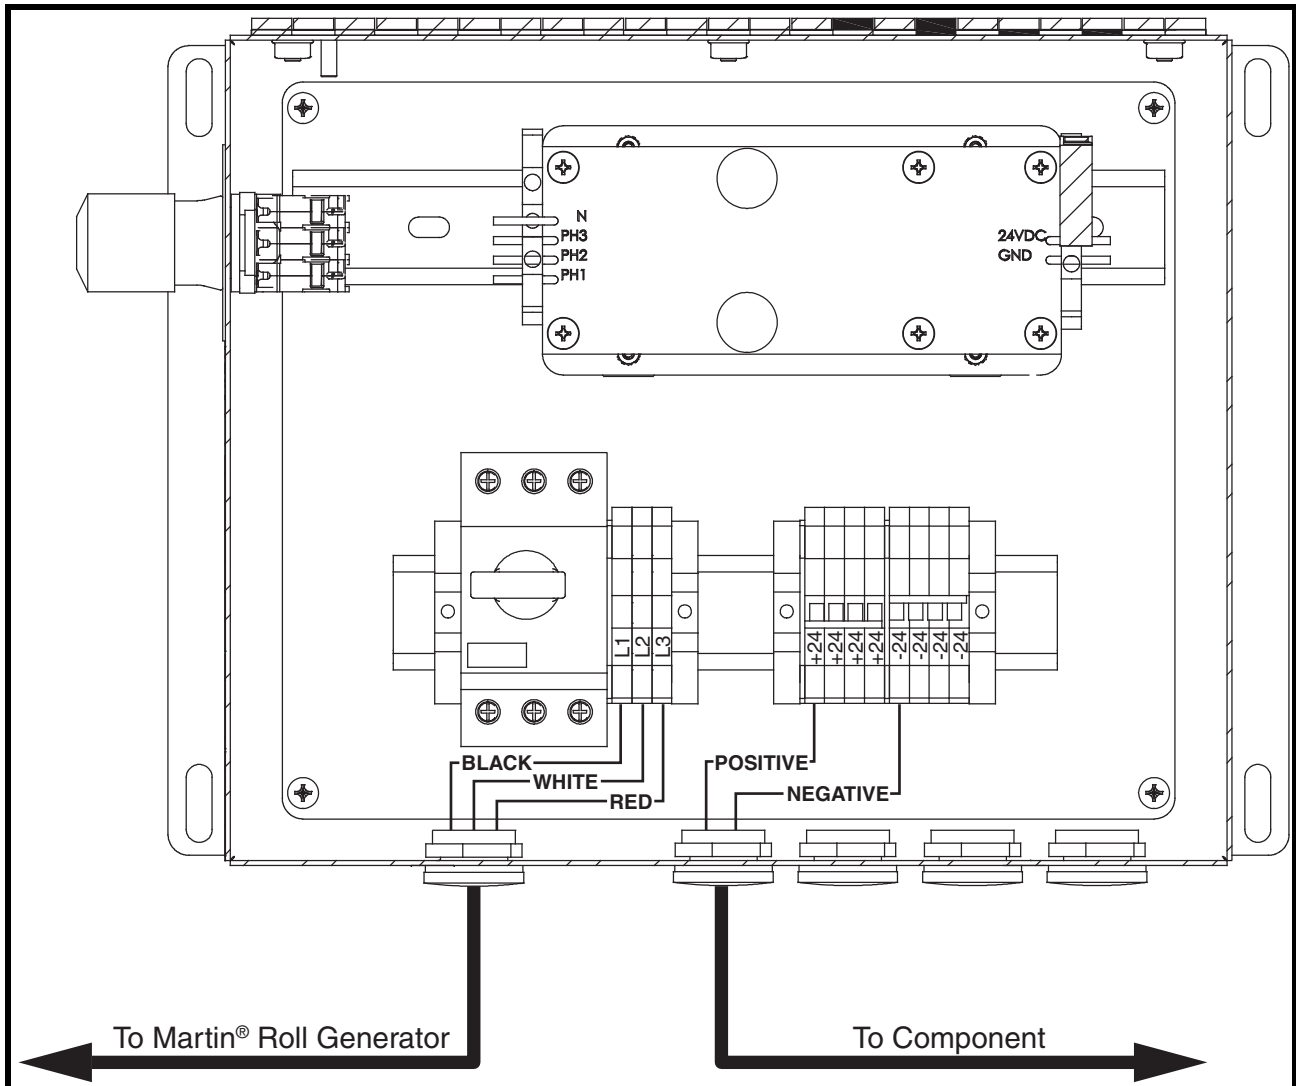

Figure 3. Power Supply Cabinet Layout
1. Connect wires from roll generator to terminal block (see Figure 3):
3. Connect wires from component to terminal block (see Figure 3):